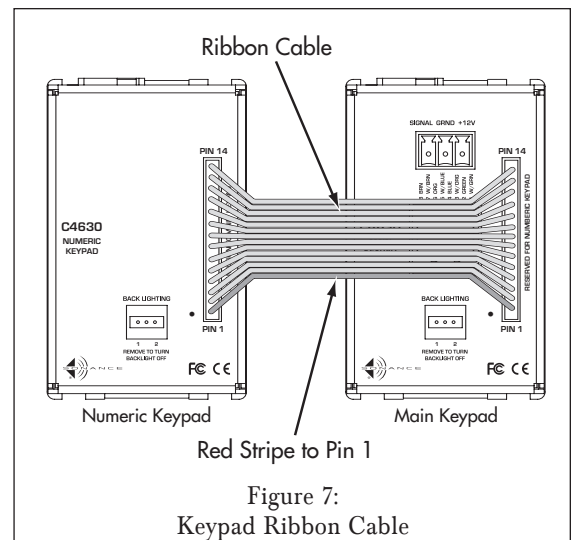

Figure 7:
- Connect the ribbon cable so that the wire with the red stripe connects to Pin 1 on both keypads (see *Figure 7*).